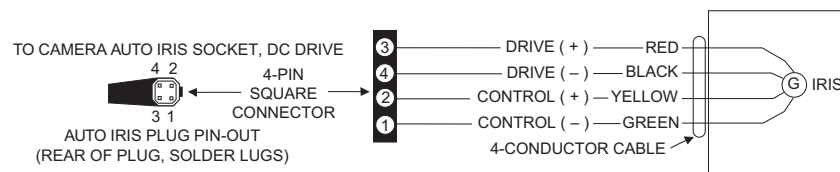

Figure 2. 4-Pin Lens Connector
4. Plug the 4-pin electrical connector into the camera auto iris DC drive socket. Figure 2 shows the wiring diagram for the connector.